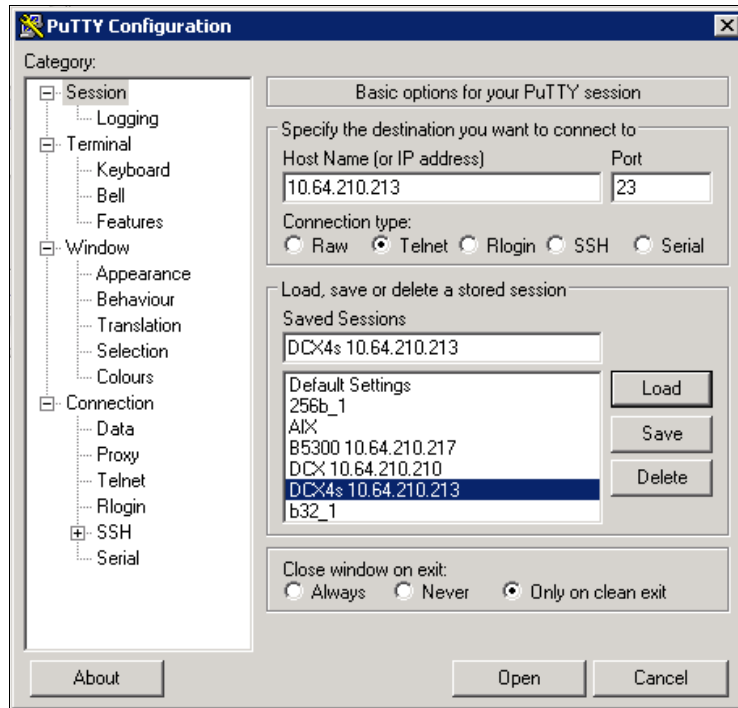

Figure 8-103 PuTTY as SSH client
3. In our example, we use PuTTY as the Telnet Client. The utility then launches, as shown in Figure 8-103. After entering IP address of the switch, PuTTY establishes connection and we are prompted to login.